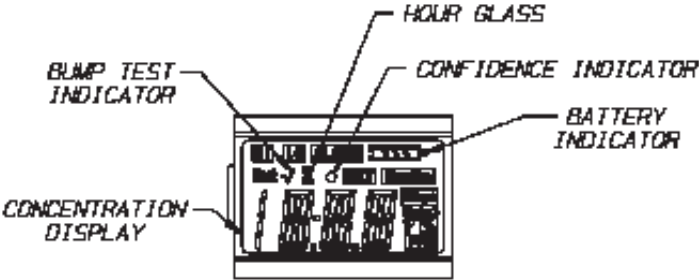

Figure 2-2. ALTAIR Pro Display
- Figure 2-2. ALTAIR Pro Display2-1
- Battery Life Indicator (See FIGURE 2-2)2-8
- Confidence Indicator (see Figure 2-2)2-9
Battery Life Indicator (See FIGURE 2-2)